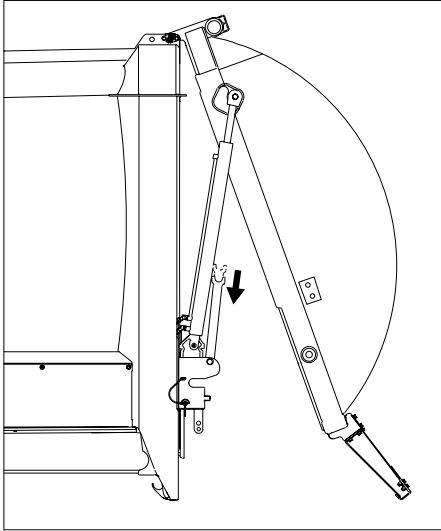

Figure 10. Putting the tailgate safety prop back in its home position
4. Release your grip on the safety prop to set in its home position (see Figure 10. “Putting the tailgate safety prop back in its home position”).